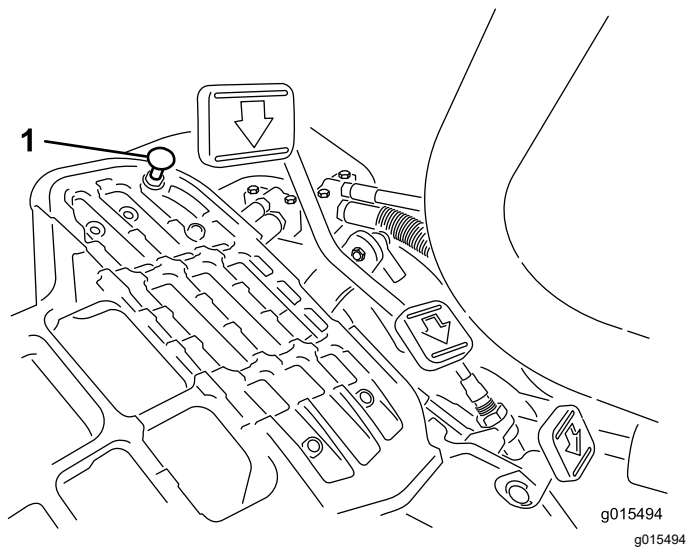

Figure 42
To obtain the maximum-transport speed, put the functional control lever in the TRANSPORT position and press down on the traction pedal. If the pedal contacts the stop (Figure 42) before you feel tension on the cable, perform the following adjustment procedure:
1. Put the functional-control lever in the TRANSPORT position and loosen the locknut securing the pedal stop to the floor plate (Figure 42).